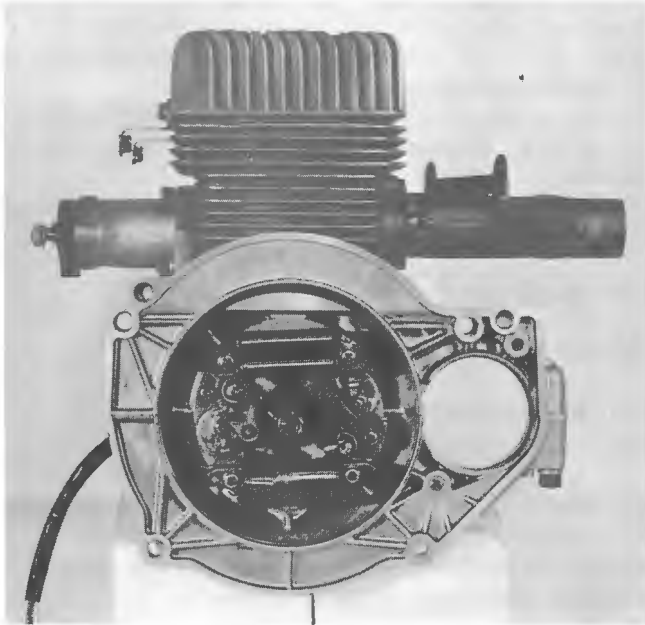

FIGURE 5-8 STATOR INSTALLED
5.2.5 Stator Assembly (See Figure 5-8)